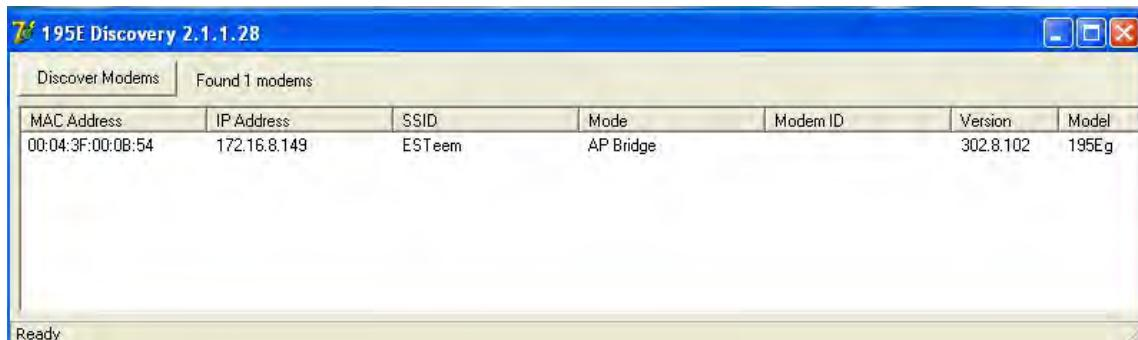

Figure 4: Discovery Program Main Page
4. Connect the Model 210 to your computer either directly to the Ethernet card or through a HUB/Switch using a CAT-5e Ethernet cable. The Ethernet port on the 210 supports Auto-Negotiation, so either a patch cable or crossover cable will work. Open the ESTeem Discovery Program and press the Discover Modems button. The Model 210 will be displayed in the program by the Ethernet MAC address and Current IP Address (Figure 4).